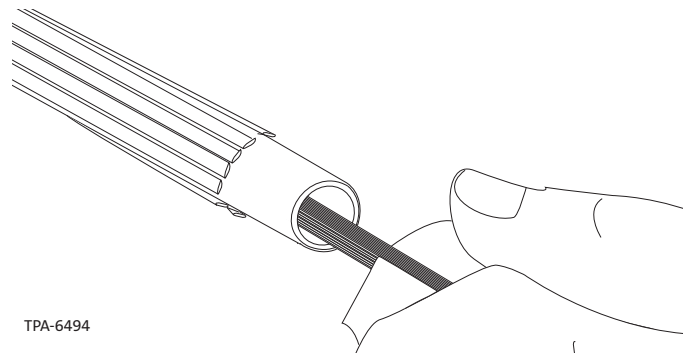

Figure 11
Step 2: (For gel-filled cable) Use a tissue soaked in filling compound remover to wipe the filling compound from each of the ribbons (Figure 11). Use a dry tissue for final cleaning.